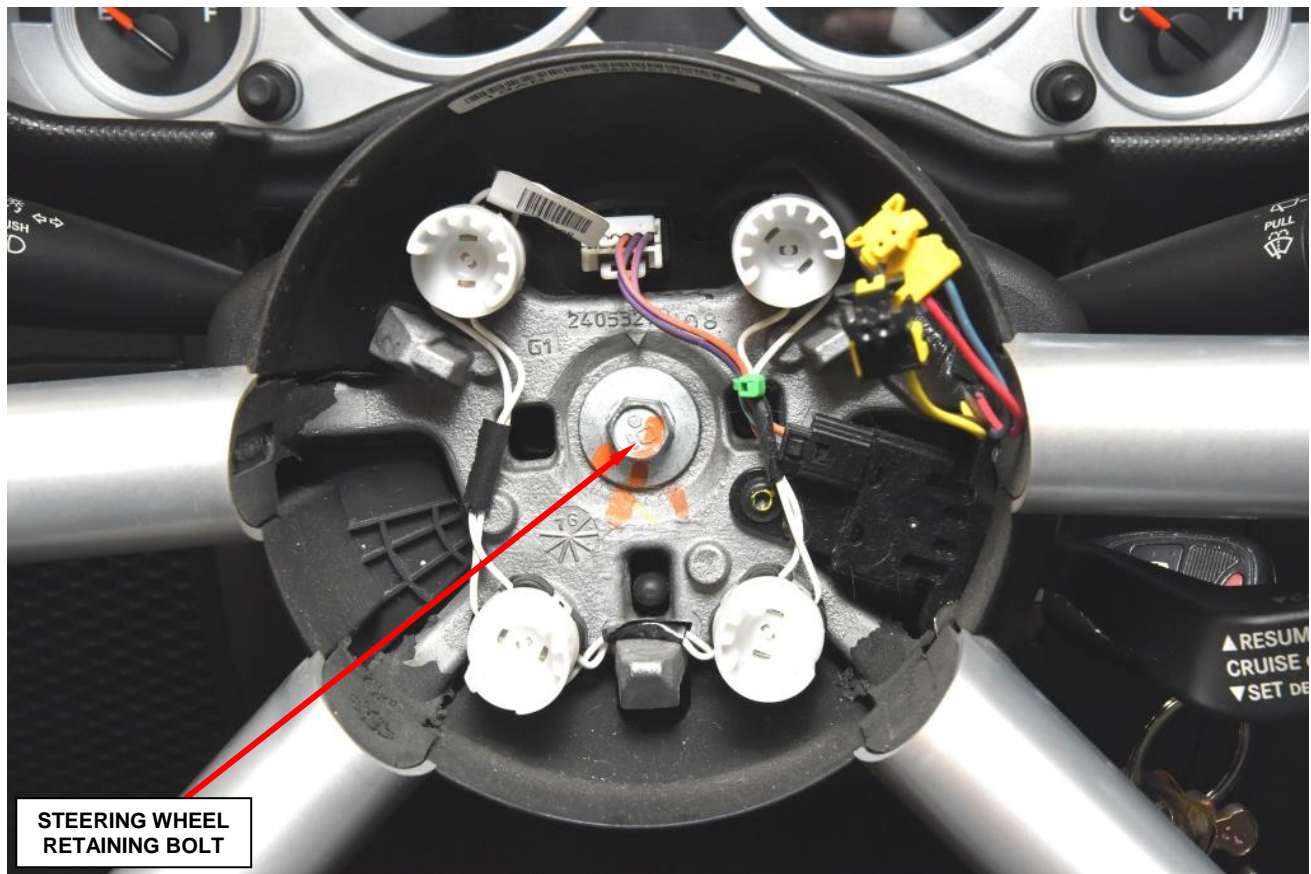

Figure 2 – Steering Wheel Retaining Bolt
5. Remove and discard the steering wheel retaining bolt from the steering shaft (Figure 2).
35. Install a **NEW** steering wheel retaining bolt and tighten the bolt to 40 ft. lbs. (54 N·m) (Figure 2).